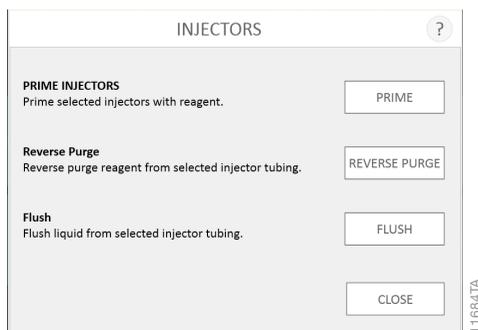

Figure 120. Injector functions (prime, reverse purge and flush).
5. Tap the **Prime** button shown in Figure 120. The door will open.
1. Tap the **Reverse Purge** button on the 'Injectors' screen (Figure 120). The door will open.
2. Tap the **Flush** button on the 'Injectors' screen (Figure 120). The door will open.